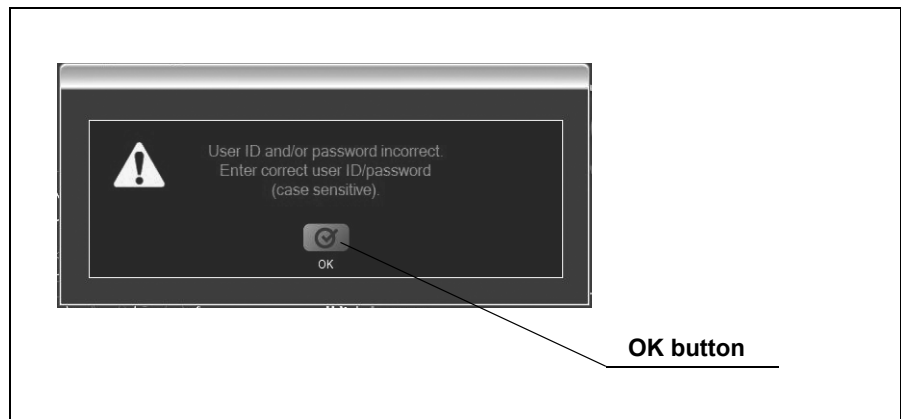

Figure 4.4
- If the message in Figure 4.4 is displayed, the user ID or password is incorrect. Click the [OK] button, and then check and re-enter the user ID and password.